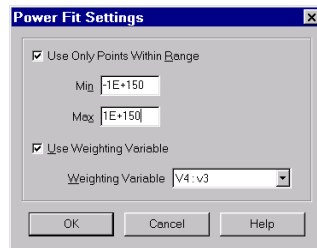

Figure 8-21. The Power Fit Settings dialog.
2. By default, this option uses all the data points in the mapping, weighting them equally. Use the Power Fit Settings dialog to specify different settings. The dialog is shown in Figure 8-21.